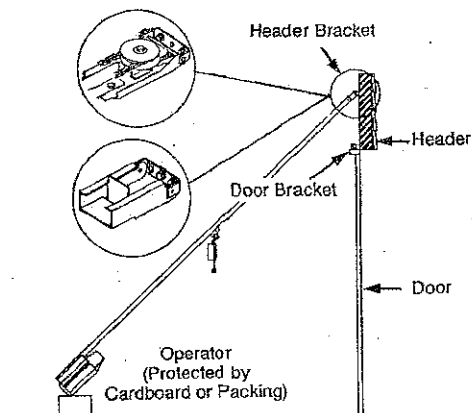

Fig. 14 Attaching Operator to Header Bracket
6. Attach operator to header bracket. (Fig. 14).